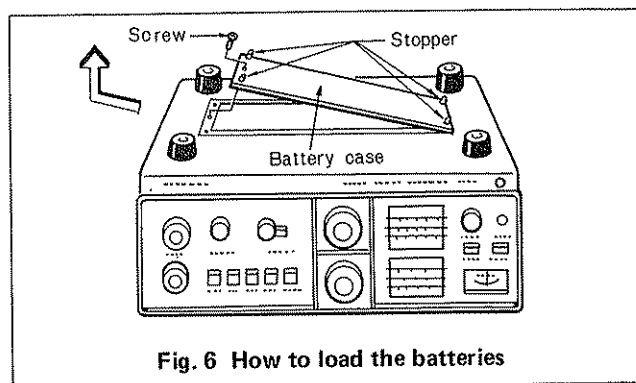

Fig. 6 How to load the batteries
3. Use 8 dry-batteries (UM-1) in series connection for built-in battery. Install the batteries making sure that the battery polarity is correct by referring to the instructions on the bottom of the battery case. To load the batteries, see Fig. 6.